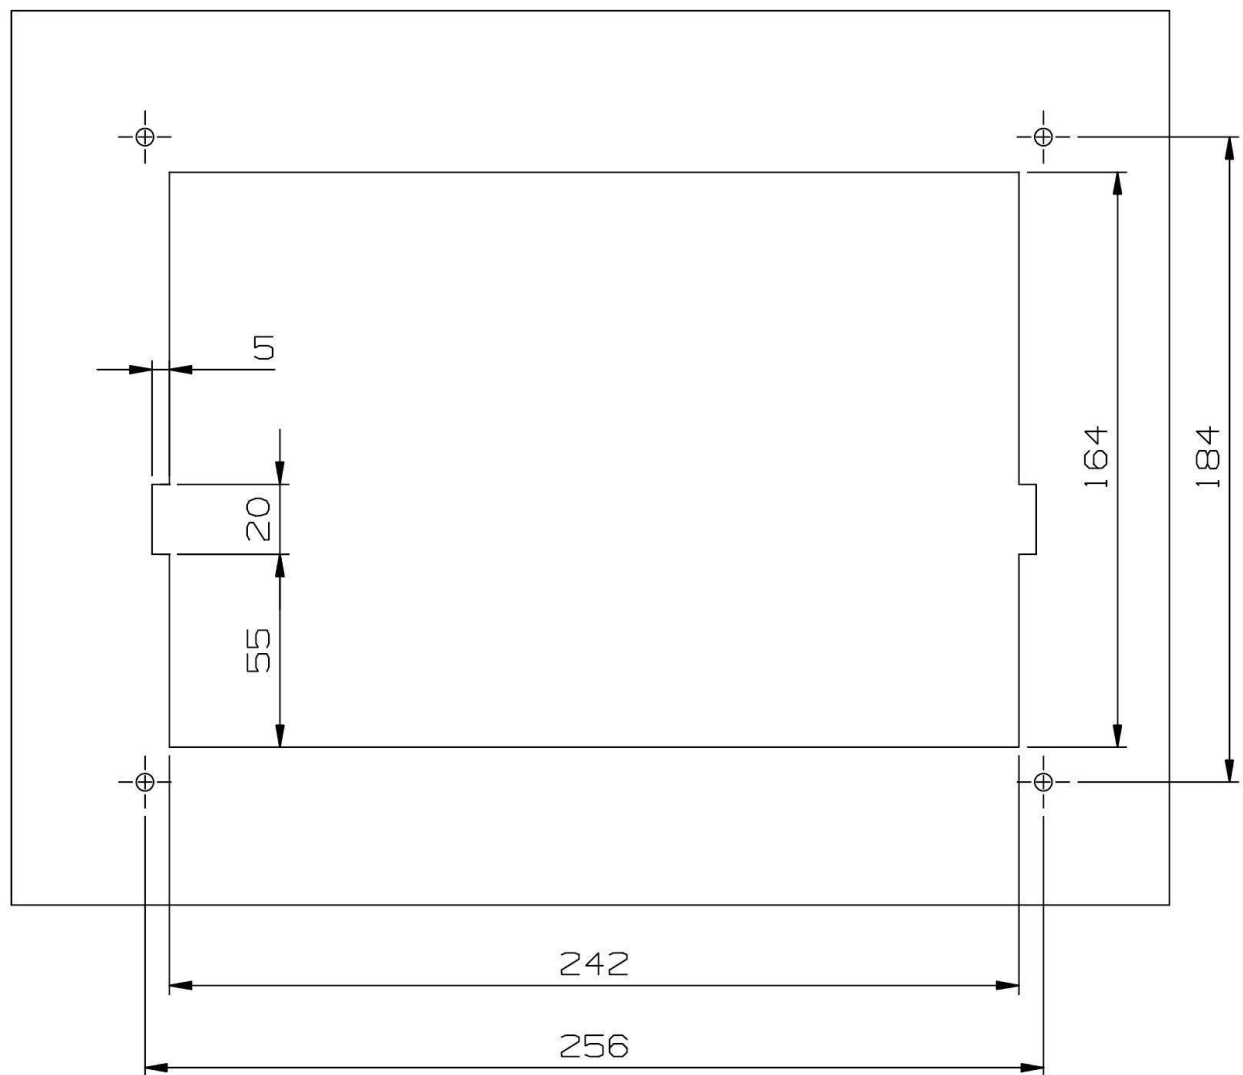

Figure 4-7: Panel mount hole dimensions
2. Make one rectangular hole and four round holes in the panel, as illustrated in Figure 4-7. (If the hole template is available, place the template in the right position and drill and saw according to the template. If this method is used, exclude step 3 and 4 in this instruction.)